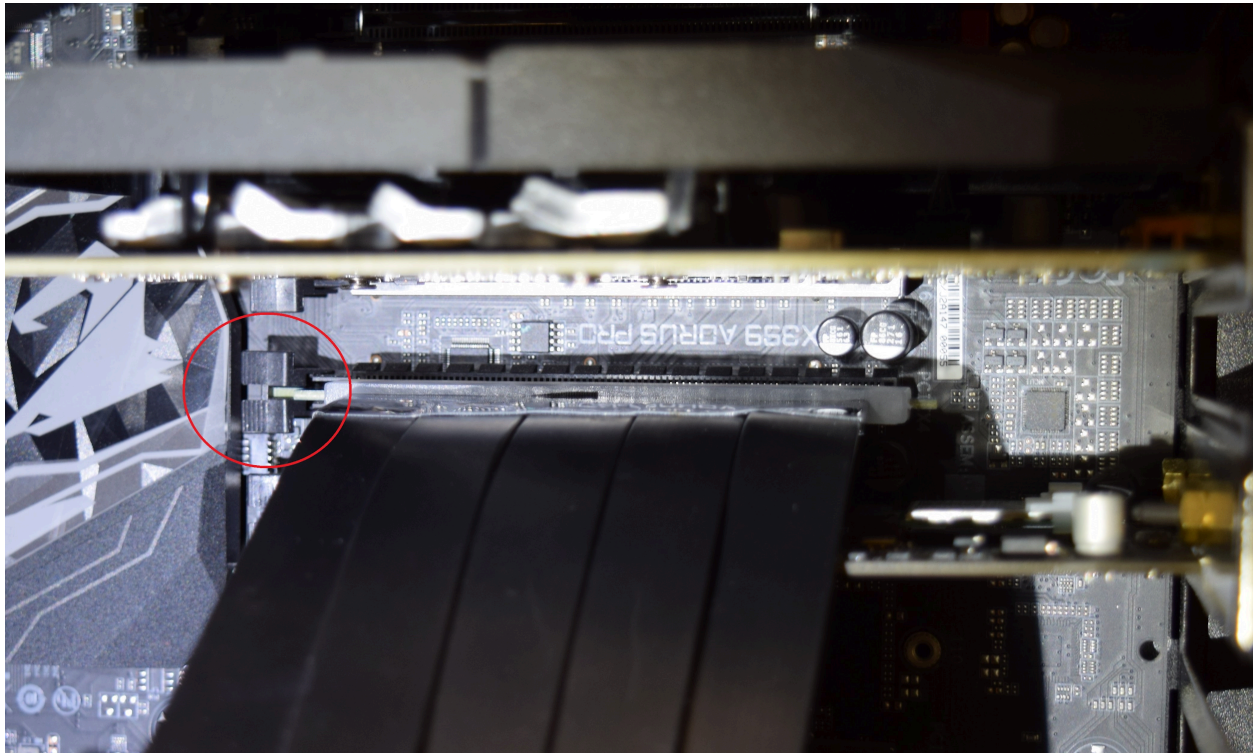

Figure 20: Connecting the PCIe Ribbon Cable to the MCAM workstation with connector lock highlighted.
- 2) Align the male end of the PCIe Ribbon Cable with the port on the motherboard of the MCAM workstation with the locking flap on the left side (Figure 20). The PCIe port is located just below the graphics card and above and to the right of the wifi card in the workstation. Gently press the PCIe connector into the socket making sure the connector lock engages the locking flap on the left side (Figure 21).